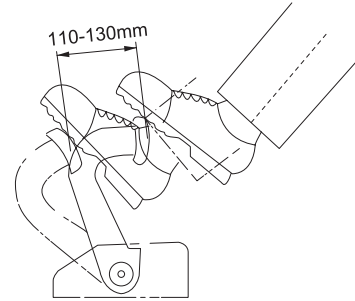

Figure 4-47
- When the brake lining is worn, the stroke of the steering pedal will increase to make steering difficult. When the stroke is over 190mm (when the braking force is reduced), make adjustment as follows: standard stroke: 110-130mm (when the engine is idling and the operation force is 150N) Figure 4-47); 75mm (the stroke when the engine is not running).